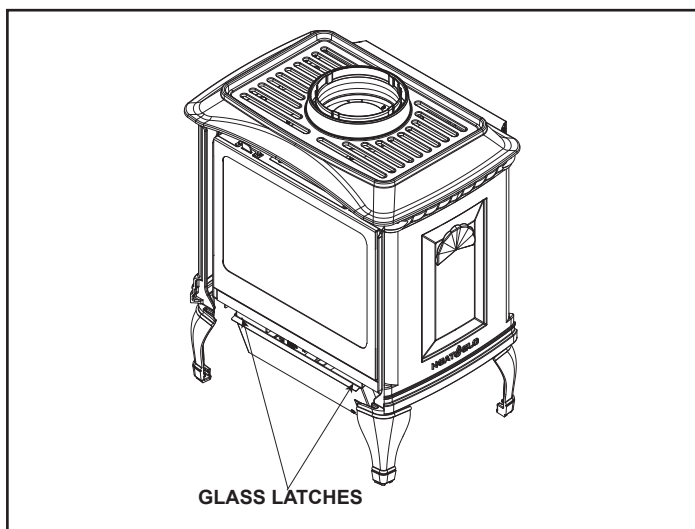

Figure 10.2 - Remove Glass Frame
3. Release both glass latches at the lower corners of the appliance. Remove glass from appliance, Figure 10.2.